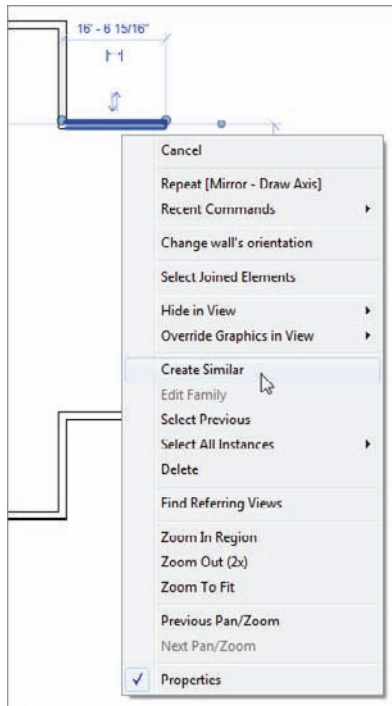

FIGURE 1.29 You can select any item in Revit and create a similar object by right-clicking and selecting Create Similar.
5. Select **Create Similar**, as shown in Figure 1.29.